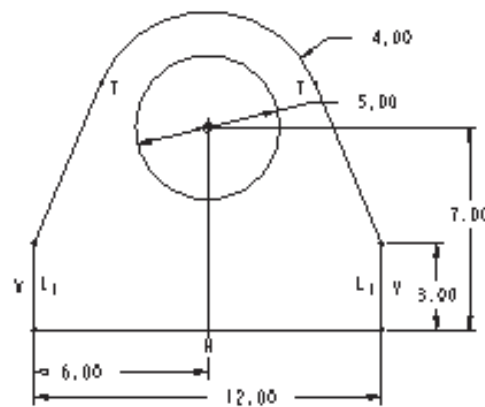

Figure 1-37 Sketch with dimensions and constraints for Tutorial 1
5. Using the middle mouse button, place the dimension below the sketch as shown in Figure 1-37. Remember that when you add dimensions while the **Intent Manager** is on, the dimension values are displayed instead of dimension symbols.
The sketch is complete and is shown in Figure 1-37. When you are sketching with **Intent Manager** on, the sketch is automatically regenerated after the dimensions are modified.